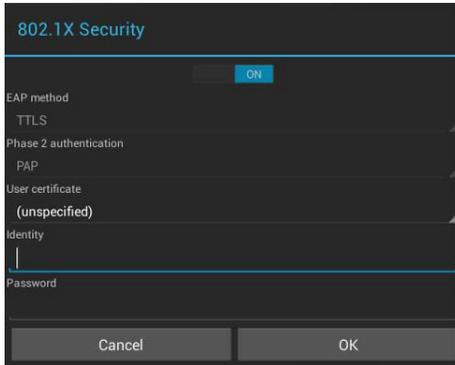

FIG. 62 802.1x Security window (ON)
2. Toggle this feature **ON** to enable the editable fields in this window (FIG. 62):